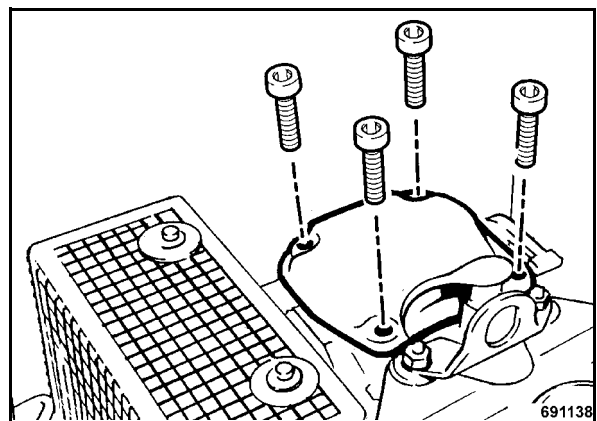

Fig. 55
- Disassemble the valve cover (Fig. 55).